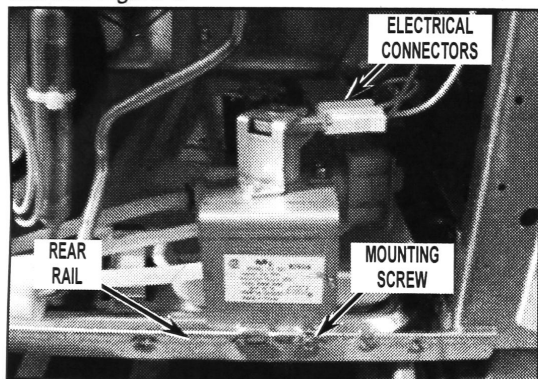

FIGURE 1
4. Remove the mounting screw securing the valve to the rear rail. See *Figure 1*.
5. Disconnect the electrical connectors. See *Figure 1*.